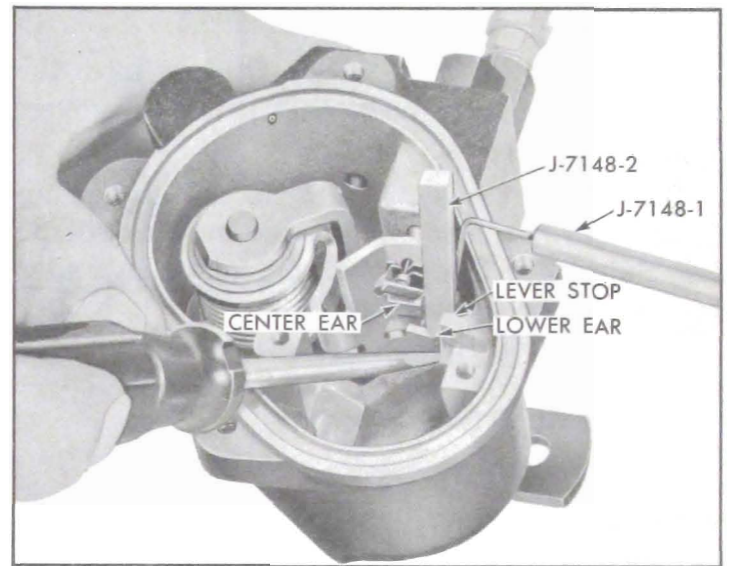
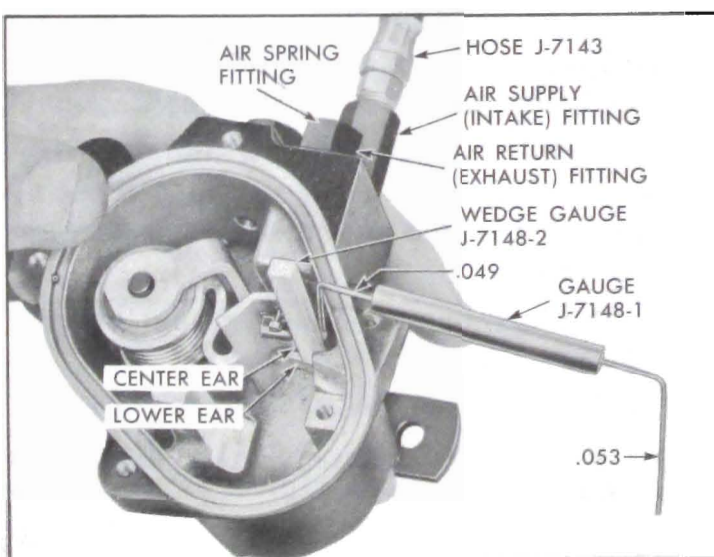

Figure 7-75—Setting Intake Valve
Figure 7-74—Checking Intake Valve
- (c) Remove pump shield and cover plate. See figure 7-74.
(6) Remove both gauges and reverse their positions. Place .049 end of the feeler gauge between the side of the lever stop nearest to the valve cores and the middle ear of the operating lever and the wedge gauge on the opposite side. See Figure 7-74.
(7) Remove the air hose, J-7143, from the air return fitting and install in the air supply (inlet) fitting. Increase the line pressure to 50-80 psi.
(8) A slight amount of air leakage should be heard. If not, use a screwdriver or other suitable tool and bend the lower ear toward the intake valve core until some leakage is heard. See Figure 7-75.